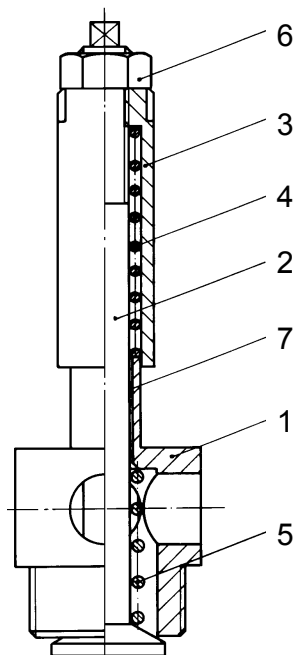

Fig. 2
- Adjust the desired vacuum by means of the vacuum relief valve (Fig. 2):